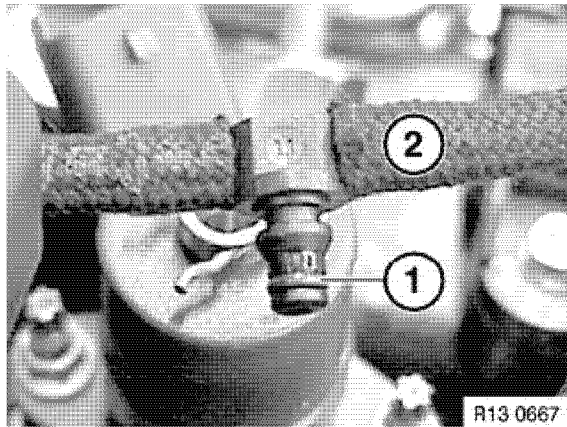

Figure 6-42
6. Inspect O-ring (1, **Figure 6-42**) on each fitting. If any O-ring is damaged, the entire return fuel line (2, **Figure 6-42**) must be replaced as an assembly.